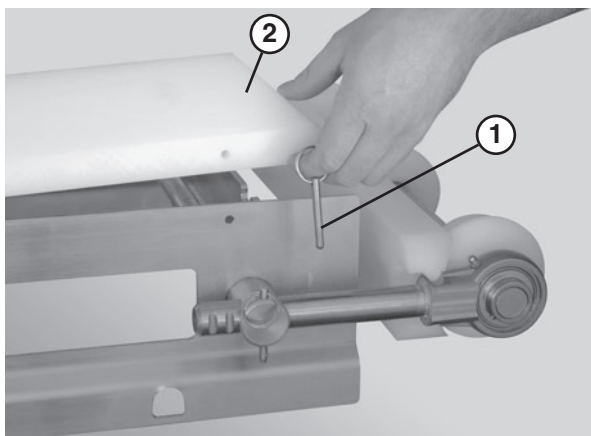

Figure 56
1. Remove the pull pins (**Figure 56, item 1**) that connect the guide (**Figure 56, item 2**) to the frame.